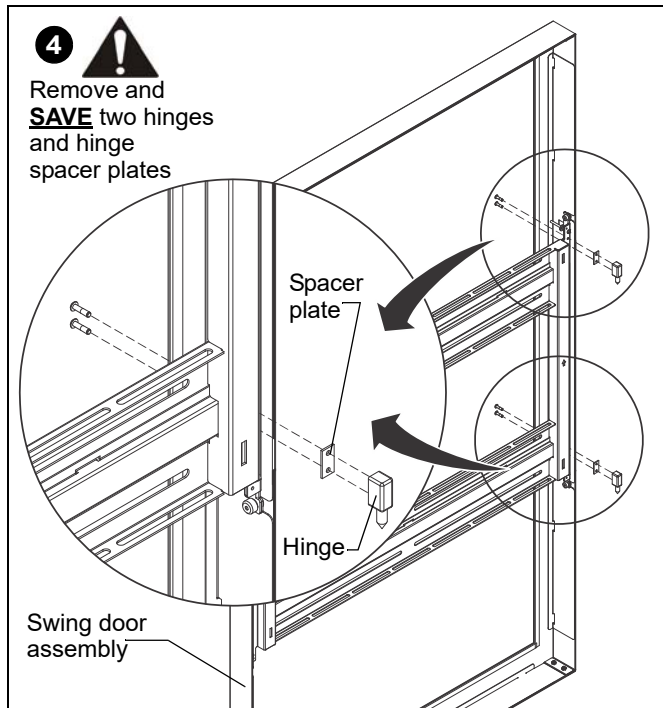

Figure 14
4. Remove and **SAVE** lift-off hinge and hinge spacer plate from two locations on swing door. (See Figure 14)